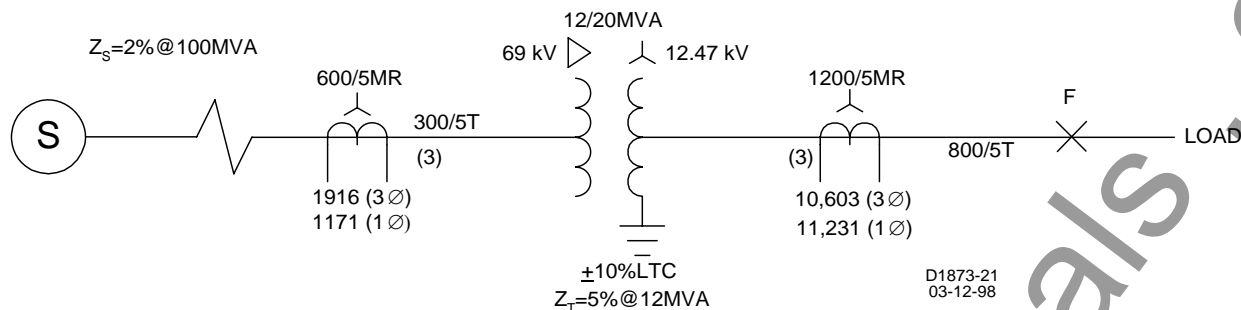

Figure 4-35. Two Winding Transformer Relay Setting Calculation Example
Refer to Figure 4-35 for a one-line drawing of this example.
Step 3. Three-Phase Units Only: Adjust the phase compensation jumpers on Analog Board #2, shown in Figure 2-4 (or use the procedure listed in **TESTING THREE-PHASE UNITS WITHOUT CHANGING JUMPERS**, in Section 5). Because of the grounded winding in this example, as shown in Figure 4-35, the high-side and low-side zero-sequence currents must be canceled. Because the CTs are connected in wye and the high-side currents lead the low-side currents by 30°, select the $\Delta 2$ position. This connection advances the low side phasors by 30° to match the phasors from the high-side.
Step 12. Determine the maximum CT secondary fault current for external faults at F (I_{F3} for three-phase, and I_{FG} for single-phase). Refer again to Figure 4-35 for this example:
Neglecting R_R , use R_W and R_L from Figure 4-35: